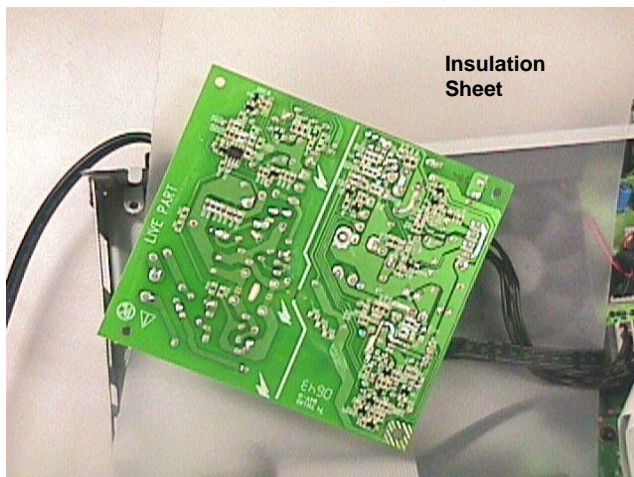

Figure 8 - PSU Board Service Position
- 2) Service position for PSU Board is given in Figure 8.